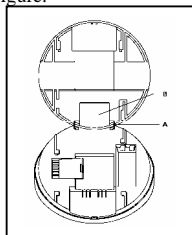

Figure 2:
- 5.4 To re-install smoke alarm, follow FIGURE2 procedure 2.1 to 2.3.